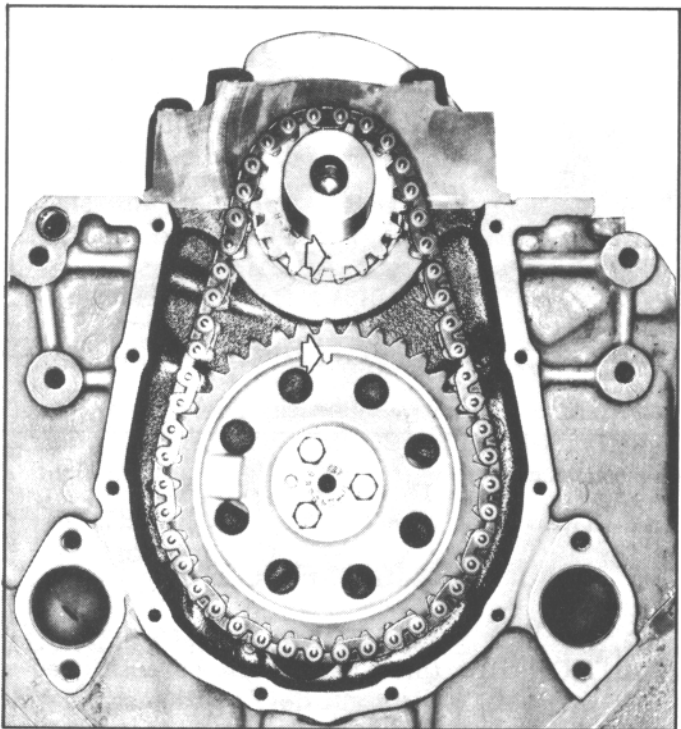

Fig. 63. Timing Sprocket Alignment Marks
2. Install timing chain on camshaft sprocket then align marks on camshaft and crankshaft sprockets and connect chain to crankshaft sprocket. Align dowel on camshaft with dowel hole in camshaft sprocket and install sprocket on camshaft (Fig. 63).